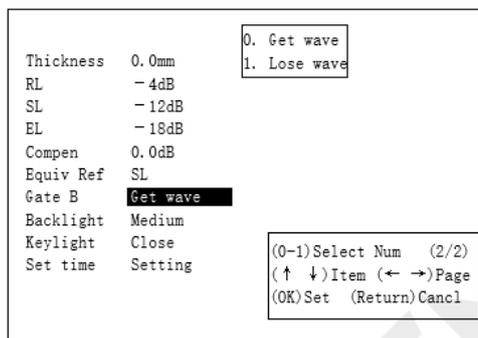

Figure2-21
2.2.7.18 Door B use selection: Press , the waveform inverse display, as shown in Figure 2-21.